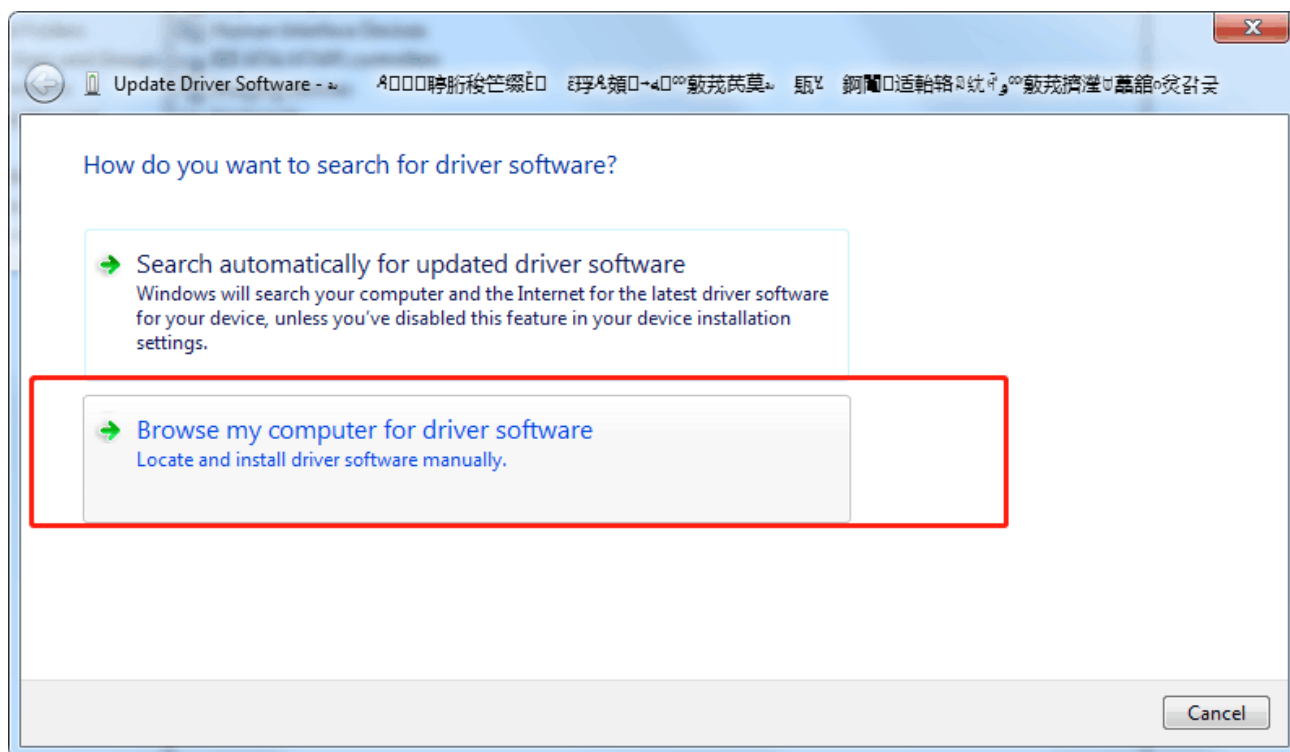
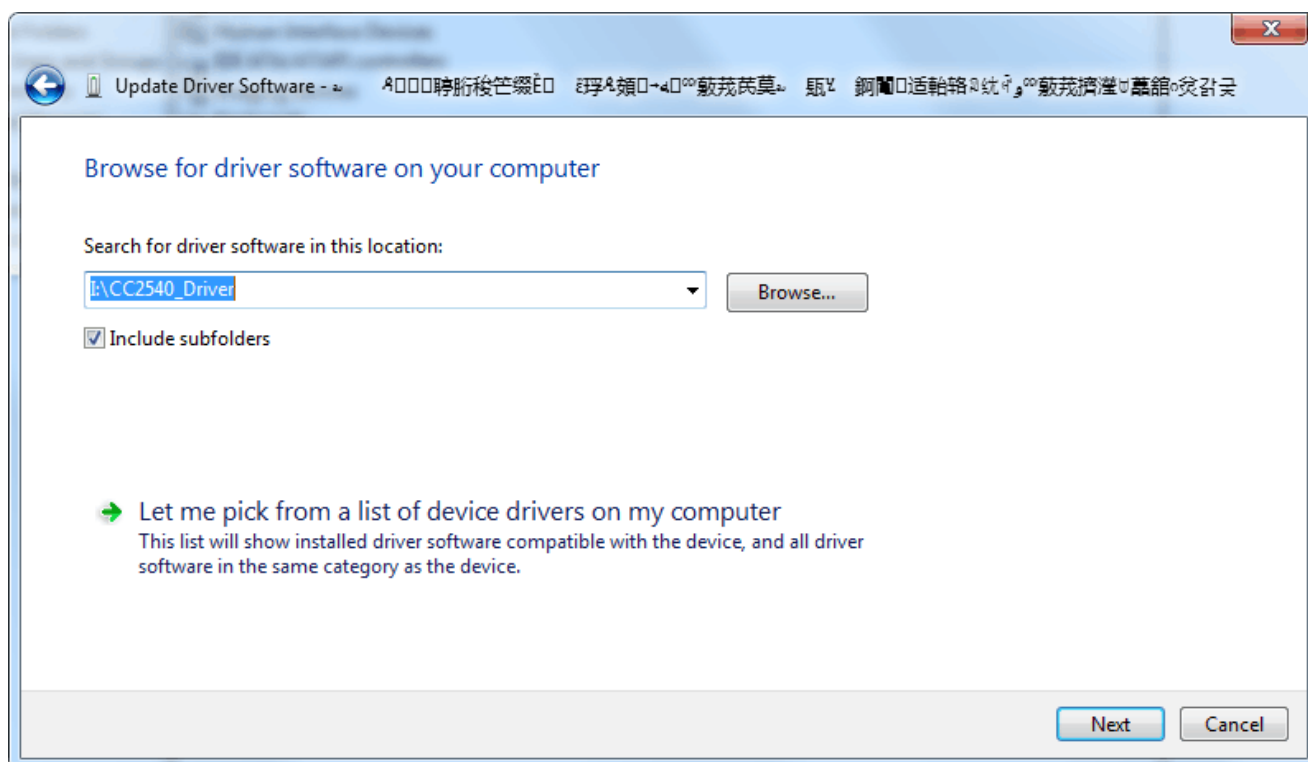

图 1.4
图 1.5
- 4) Click "browse the computer to find driver software" as shown in figure 1.4, and click "browse" as shown in figure 1.5